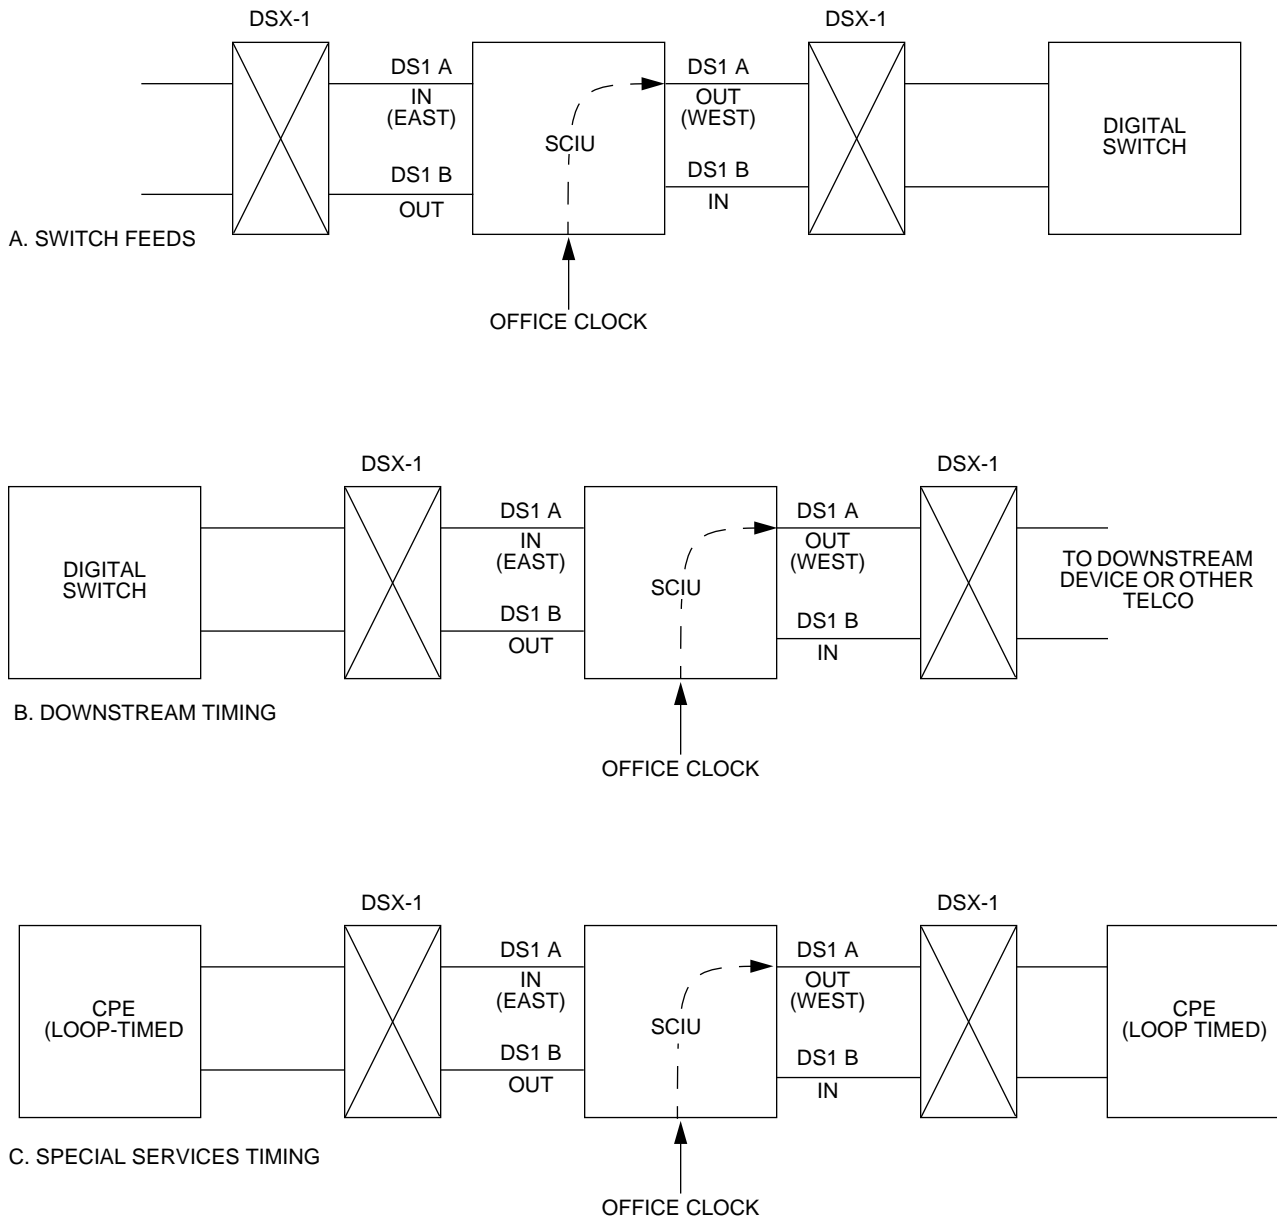

Figure 17. SCIU Timing Applications
2.39 The "A" direction (East to West) of transmission inserts the DCD clock signal into the received traffic span's bitstream. The "B" direction (West to East) is passed through the SCIU without clock insertion. See Figure 17 for typical applications connections of the SCIU cards.